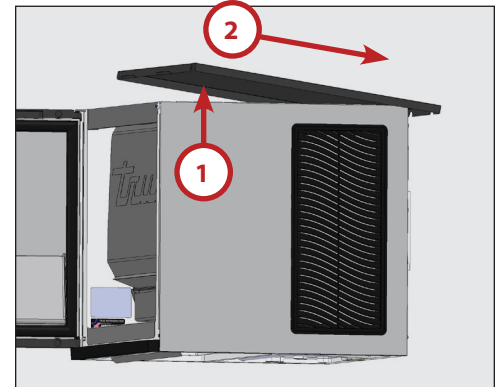

Fig. 4. Lift the front edge, slide the top panel back, and then lift the panel.
2. Carefully lift the top panels front. Then, slide the top panel towards the ice machine's rear. See fig. 4